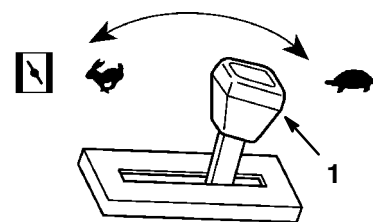

Figure 11
2. When starting a cold engine, move the throttle lever to the *Choke*  position (Fig. 11).
1. Move the throttle lever to the *Slow* position (Fig. 11).